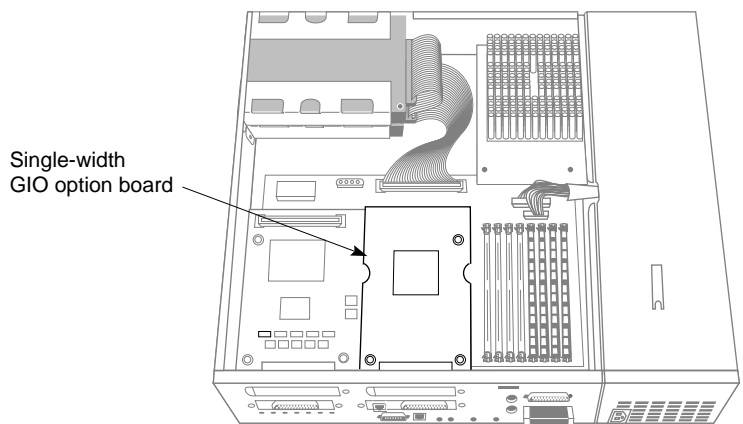

Figure 9-4 Locating the GIO Option Board
5. Move the system or position yourself so that you are facing the rear of the system, as shown in Figure 9-4.
GIO option boards are installed on top of either the IOPLUS or GIO Slot Extender boards (depending upon your system model). A single-width GIO option board covers half of the lower board (IOPLUS or GIO extender); a double-width covers the entire lower board. Figure 9-4 shows a single-width board.